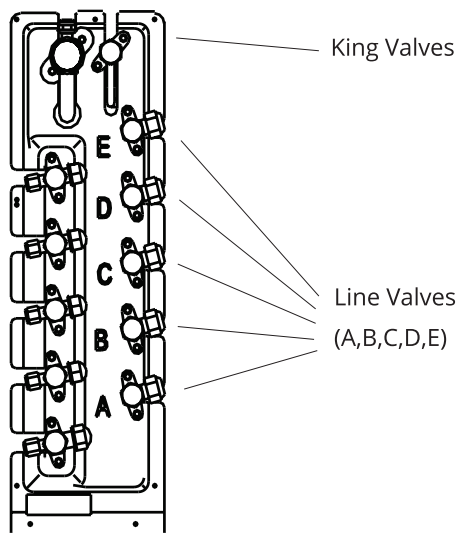

Fig 9.1
- 1. Open King valves** (see Fig. 9.1) Open both King Valves fully until you hit the stopper. Do not force.